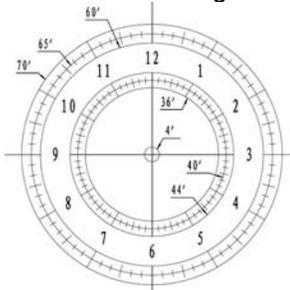

Figure 14
- (1) Thread the dark field illuminating LED into the thread-in hole on a polar scope. Plug the LED cable into the Reticle socket located on the RA unit. Turn the mount power on. Use Hand Controller (“**Settings**” => “**Set Eyepiece Light**”) to set the illumination intensity.
- (2) Use the “▲” or “▼” button to turn the DEC axis to unblock the Polar Scope view (there is a hole on the DEC axis). You may loosen the DEC clutch to turn the DEC axis without rotating the telescope;
- (3) Use the “◀” or “▶” button to turn the RA axis to rotate the Polar Scope dial to a clock position where 12 is at the top, as shown in **Figure 14**. You may release the R.A. Locking Screws and hold the OTA while turning the R.A. axis;